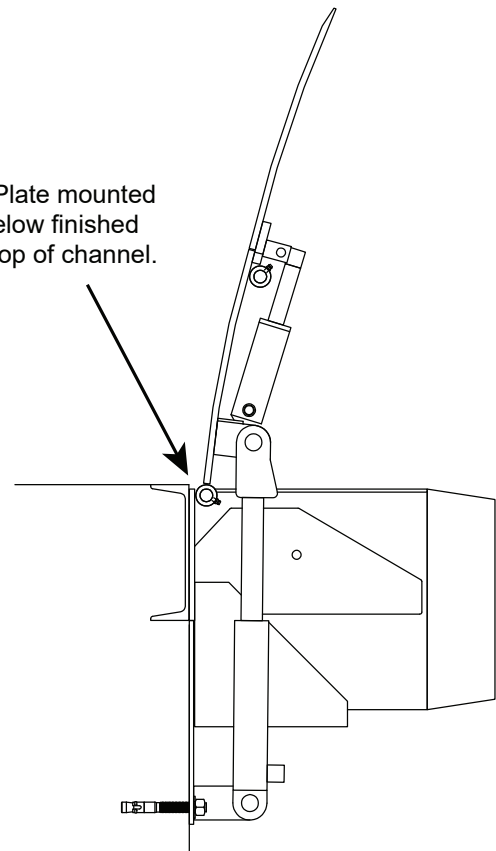

Figure 6
3. Using a proper lifting device, raise and position leveler on dock face with the top of the base plate 1/4" below the top of the embedded channel. See **Figure 6**. Position ends of base plate to match up with marks made previously.
1. Top of base plate to be 1/4" below top of dock floor and embedded channel to provide a smooth transition. Bumper is to be flush with floor. See Figure 6